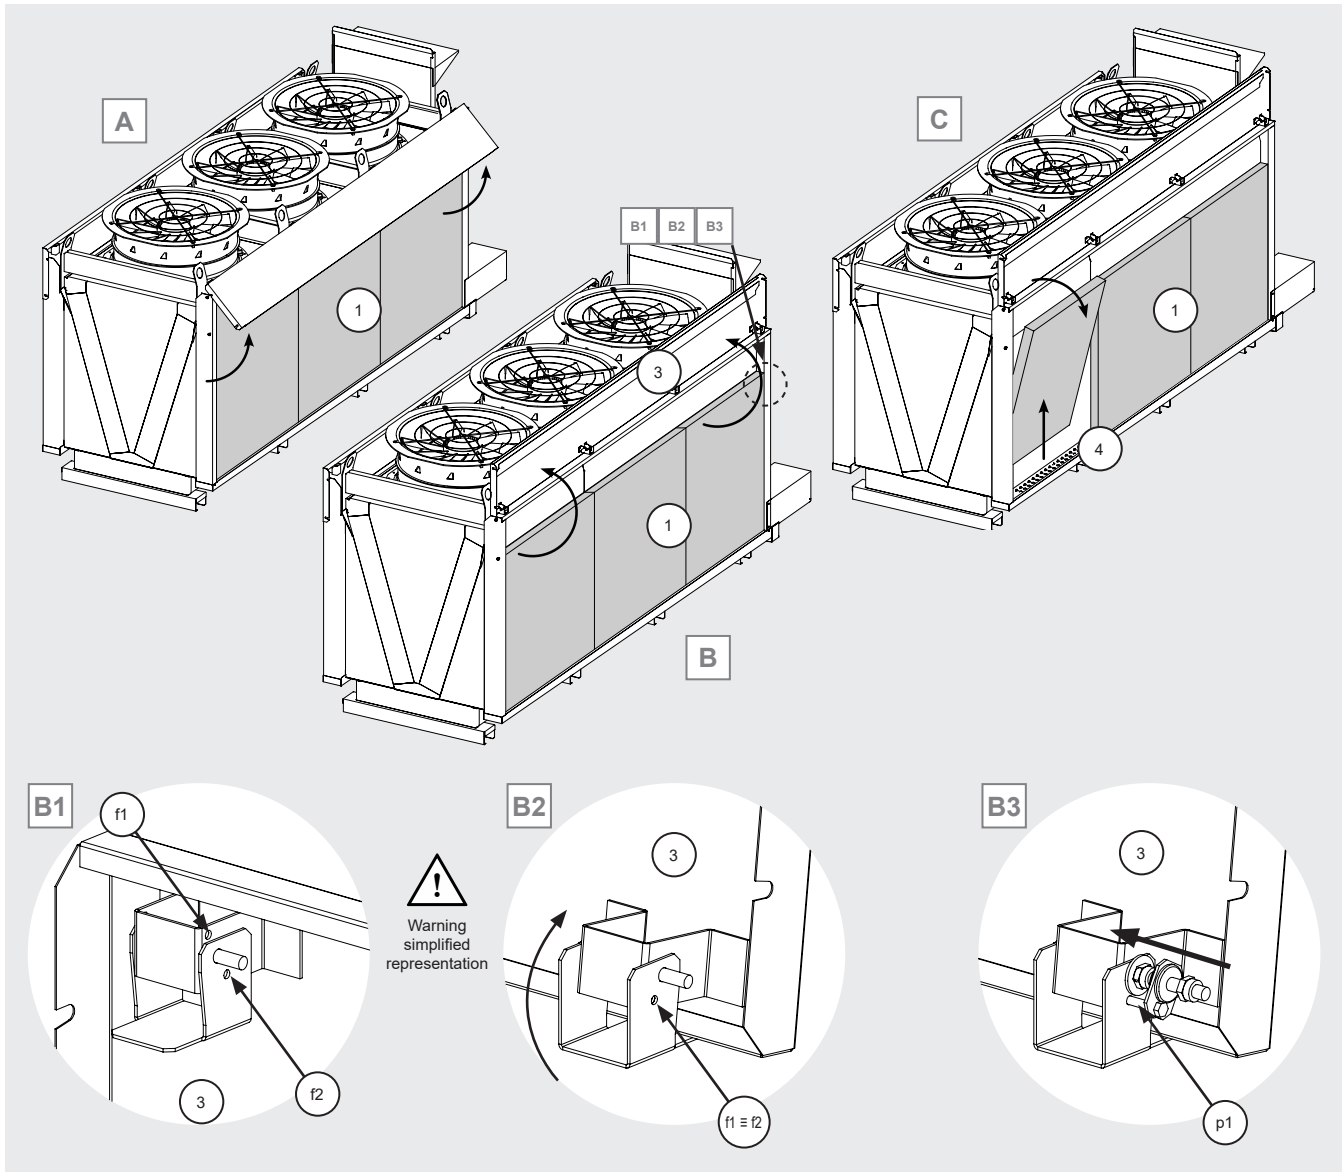

Figure 18
- 12.9.4 Lift up the cover (3) of the nozzle compartment. See Figure 18 A and B. Pay attention to the details in Figure 18 B1, B2, B3. Figure 18 B1 and Figure 18 B2 are simplified for explanatory purposes. Observe Figure 18 B1: a hinge at the end of the cover (3) is equipped with a system that prevents the cover (3) from closing accidentally. The hinge has two holes (f1) and (f2). Turn the cover (3) until the two holes match, as shown in Figure 18 B2. Now insert the pin (p1) into the two holes and lock the cover (3) in place. Before working on the model, ensure that the cover (3) is firmly in place and cannot close accidentally. Danger of hitting your hands or head.
- 12.9.5 Pull out the outer panels (1): lift them vertically out of the lower guide (4) and then pull them outwards. See Figure 18 C.